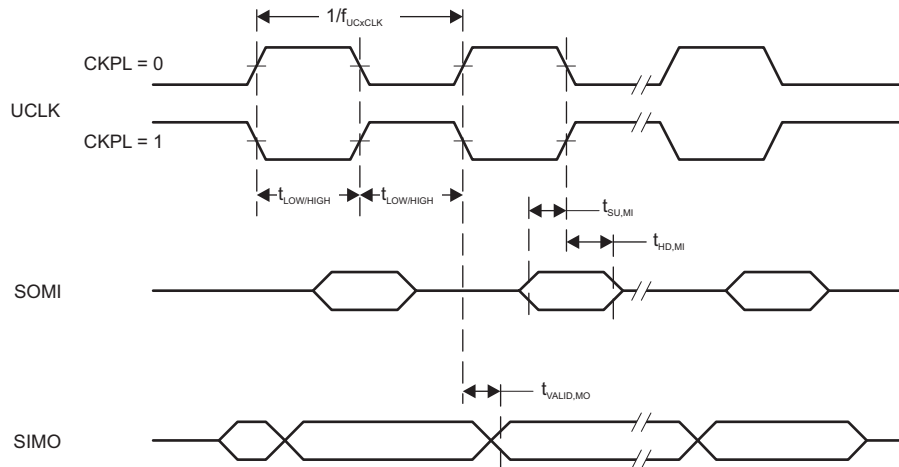
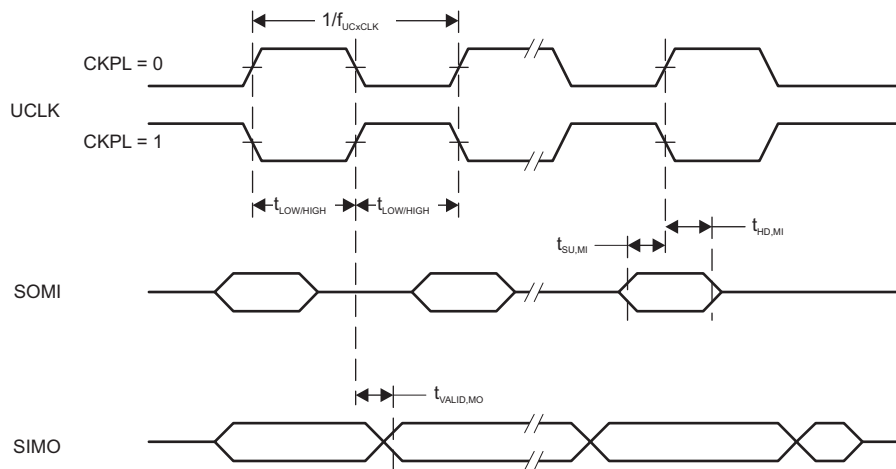

图 5-11. SPI Master Mode, CKPH = 0
图 5-12. SPI Master Mode, CKPH = 1
- (2) Specifies the time to drive the next valid data to the SIMO output after the output changing UCLK clock edge. See the timing diagrams in 图 5-11 and 图 5-12.
- (3) Specifies how long data on the SIMO output is valid after the output changing UCLK clock edge. Negative values indicate that the data on the SIMO output can become invalid before the output changing clock edge observed on UCLK. See the timing diagrams in 图 5-11 and 图 5-12.